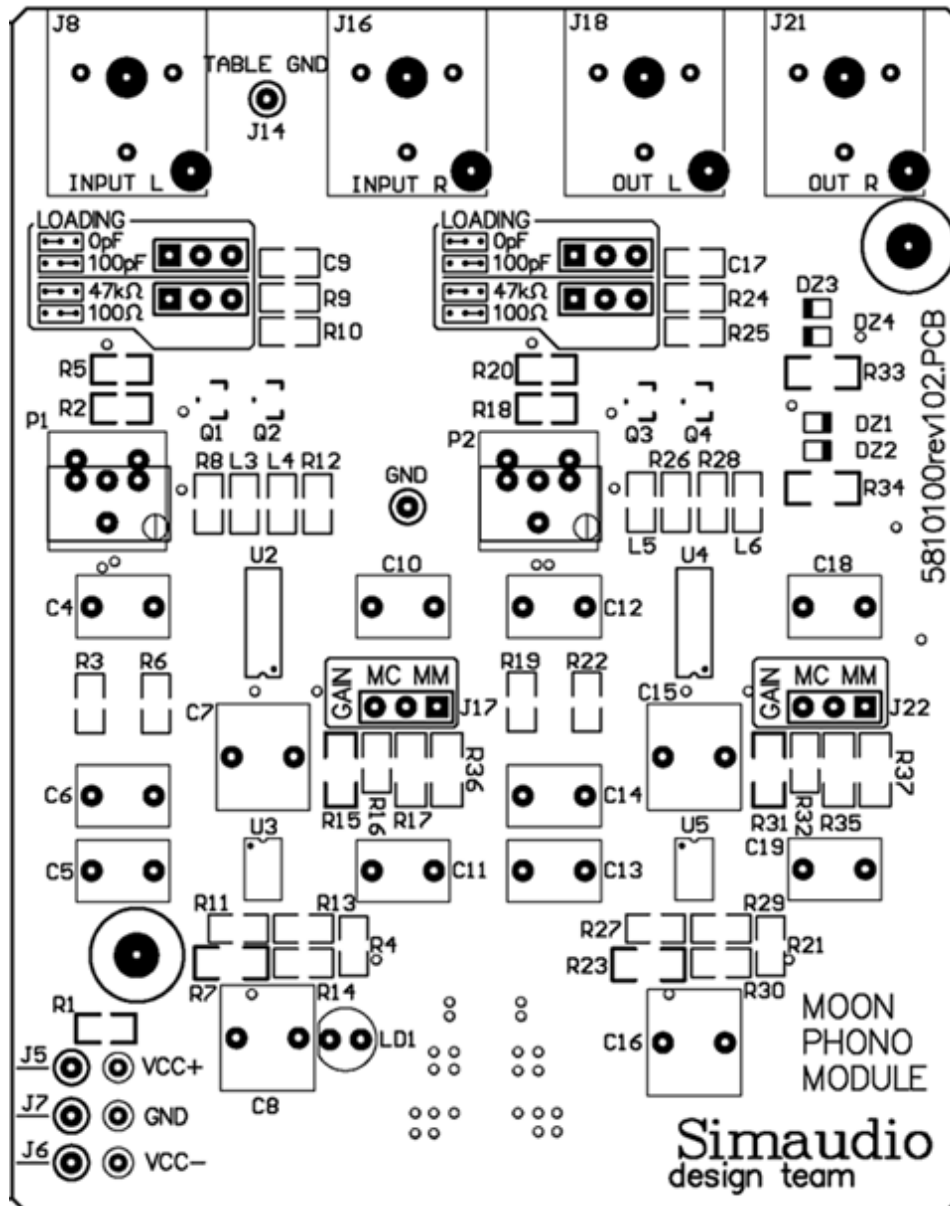

Figure 2: MOON P5.3 Optional Phono Section Circuit Board Layout
There are two (2) different settings available for setting the resistive load; 100 $\Omega$  and 47k $\Omega$  which are represented by jumper sockets R9 for the left channel and jumper socket R24 for the right channel (refer to figure 2 – section labelled "LOADING"). The factory default setting is 47k $\Omega$ , therefore both jumpers will be found in each of the two left most sockets.
There are two (2) different settings available for the capacitive load; 0pF and 100pF which are represented by jumper sockets C9 for the left channel and jumper sockets C17 for the right channel (refer to figure 2 – section labelled "LOADING"). The factory default setting is 100pF for a moving magnet cartridge, therefore both jumpers will be found in each of the two right most sockets.
There are two (2) different settings available for gain level. They are 40dB for MM cartridges and 60dB for MC cartridges, which are represented by jumper socket J17 for the left channel and jumper socket J22 for the right channel (refer to figure 2 – section labelled "GAIN"). The factory default setting is for a MM cartridge, therefore both jumpers will be found in each of the two right most sockets labelled MM; ***It is highly recommended that you do not use the jumpers labelled MC for an MM cartridge as this will overload the preamplifier.*** In the event that you're using a MC cartridge, you should insert the supplied jumpers into each of the two left-most sockets labelled MC.